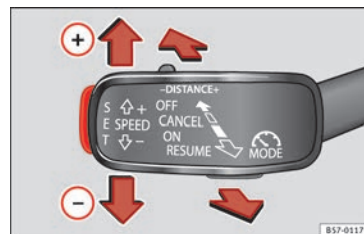

Fig. 50 On the left of the steering column: third lever to operate the CCS.
- Switching on the CCS: move the third lever to **ON** »» Fig. 50. The system switches on but it does not control the speed as no speed has been programmed.
- Activating the CCS: press the **SET** »» Fig. 50 button. It memorises and maintains the current speed.
- Temporarily switching off the CCS: move the lever to **CANCEL** »» Fig. 50 and release it or
- Reactivating the CCS: move the lever to **RESUME** »» Fig. 50 and release it. The memorised speed is saved and controlled again.
- Switching off the CCS: move the third lever to position **OFF** »» Fig. 50. The system is disconnected and the memorised speed is deleted.